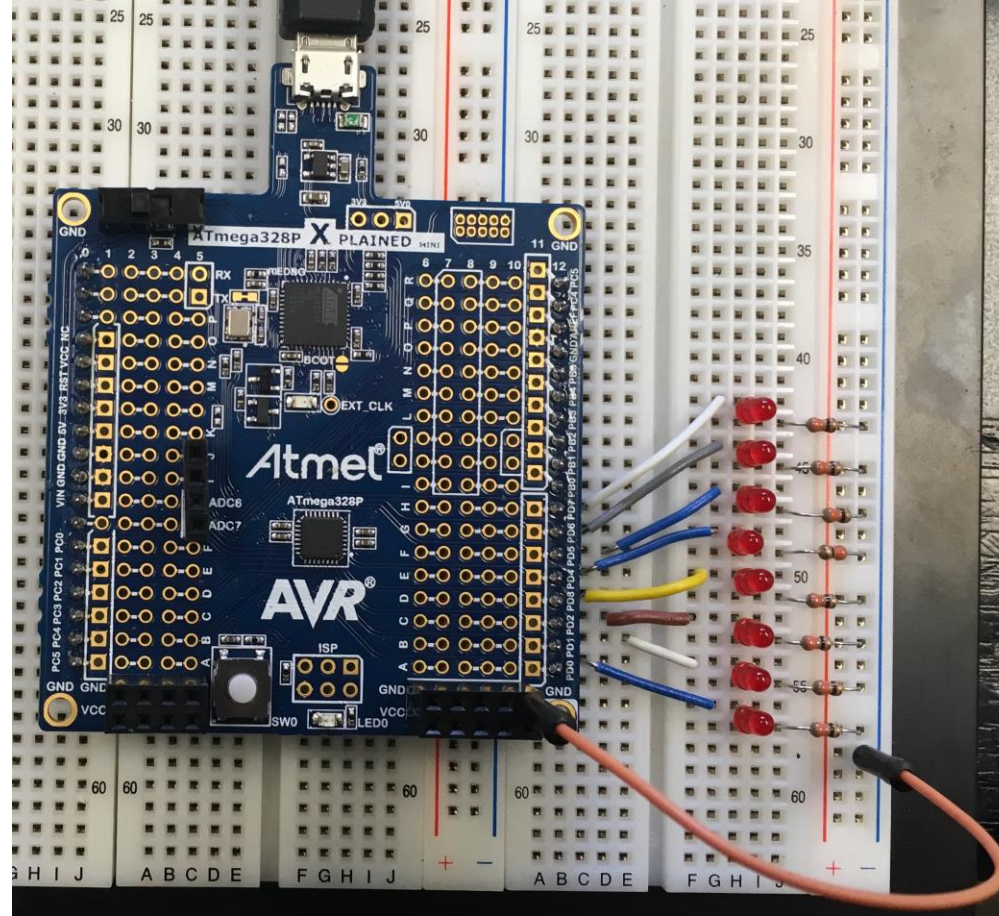

Fig1. Connections for digital outputs
- Make the connection as depicted in Fig. 1. of next slide.